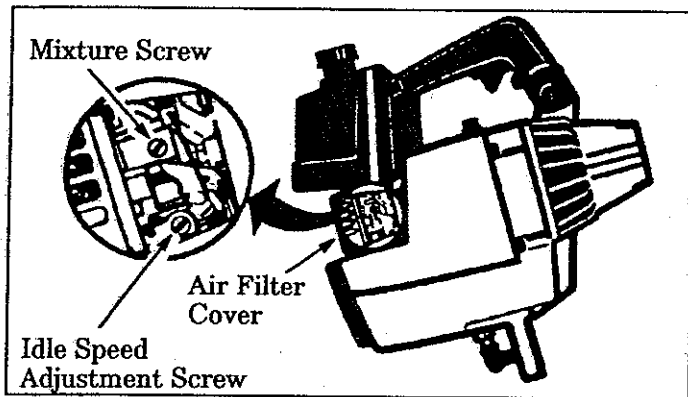

Figure 26
- a. Turn the Mixture Screw (Figure 26) clockwise until it stops. *Do not turn the screw until it is tight as damage to the needle seat can occur.*
- b. If the engine does not accelerate smoothly, turn the Mixture Screw (Figure 26) counterclockwise ← a small amount (no more than the width of the slot in the adjusting screw).
3. Turn Mixture Screw (Figure 26) very slowly clockwise  until engine speed is reduced.